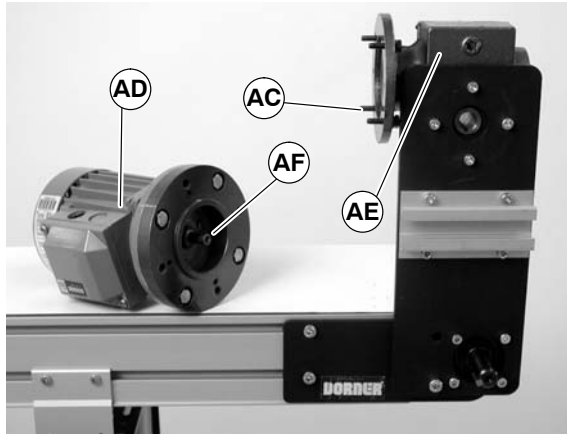

Figure 23
4. Remove four (4) screws (AC of Figure 23). Detach motor (AD) from gear reducer (AE). Retain motor output shaft key (AF).